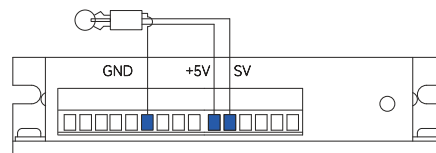

Figure2
- External potentiometer: Use a potentiometer with a resistance value of 10KΩ. ---Figure 2.